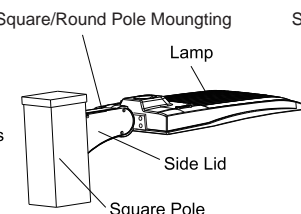

Figure 12
- Step 2: Put the connected wire into the junction box, then cover the junction box. (Figure 12)